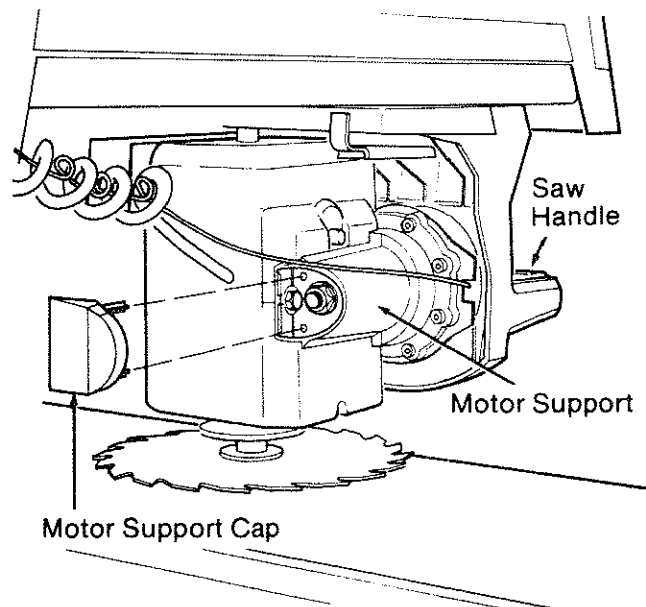

Fig. 123
18. Snap the *motor support cap* into the back of the *motor support*. The *cap* is in the loose parts bag. (Figure 123)